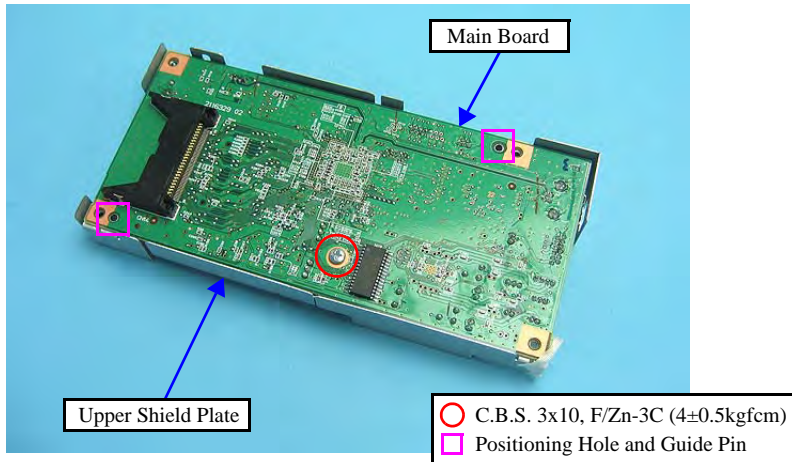

Figure 4-19. Removing the Main Board (2)
- Match the positioning holes of the Upper Shield Plate with the guide pins of the Main Board as shown in Figure 4-19.